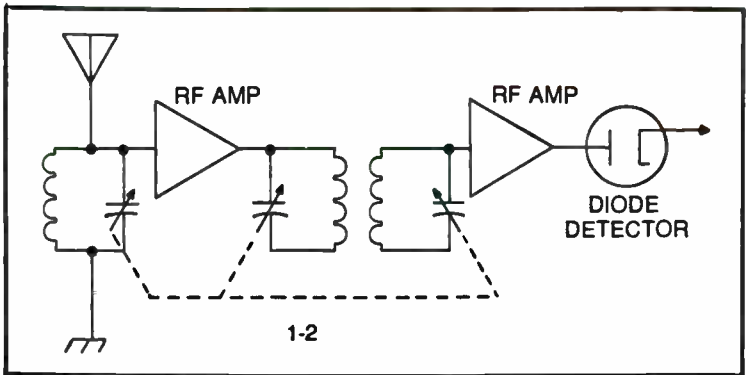

Fig. 1-4. Tuned radio frequency receiver.
The crystal set is not too efficient as a radio receiver; strong signals are needed in order to make the crystal detect. It is relatively easy to generate the large amounts of power needed ordinarily for long distance (DX) radio communication, but substantially better distance can be had if the receiver at the other end is very sensitive. Fleming and DeForest invented the diode and triode vacuum tubes, respectively, in the early 1900s. By the early 20s, it was possible to buy vacuum tubes that would operated in the rf region occupied by radio signals. With Deforest's amplifying triode, the sensitivity of radio receivers improved substantially. Undoubtedly, the first attempts placed an rf amplifier ahead of a crystal detector, but the multistage radio receiver was soon on the market. These radios used several *tuned radio frequency* amplifiers ahead of a diode (or diode-connected triode) detector stage. These were called trf receivers for the tuned radio frequency amplifiers (see Fig. 1-4).